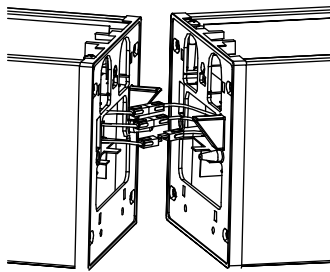

Figure 6
- B. Connect the wires between the fixtures. (Fig. 6)